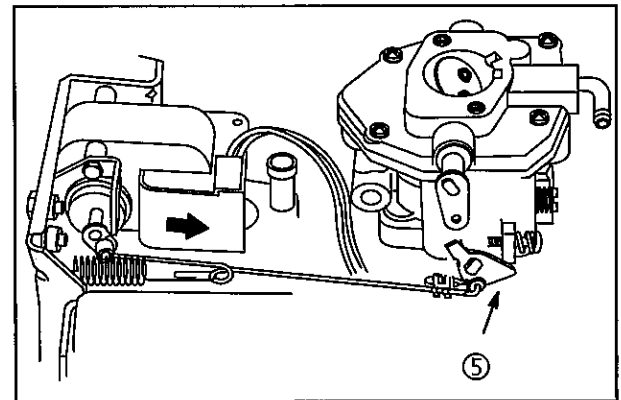

Fig. 56
3. Actuator should move throttle lever to wide open position (5), **Fig. 56**.